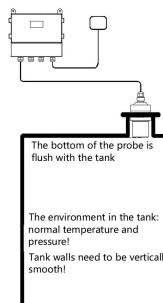
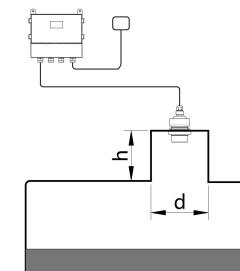

Figure 3
Figure 4
5) For flange mounting on tanks under normal temperature and pressure, it is best to have the probe surface of the instrument exposed inside the tank, as shown in Figure 3. If the on-site environment makes this impossible, refer to Figures 4 and 5 for the diameter of the pipe used to fix the flange. The length h should be between 100mm and 300mm, and the larger the h value, the larger the corresponding d value.